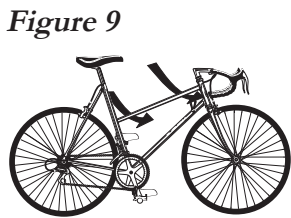

Figure 9
- Women's frames can be mounted as shown in *Fig. 9*.